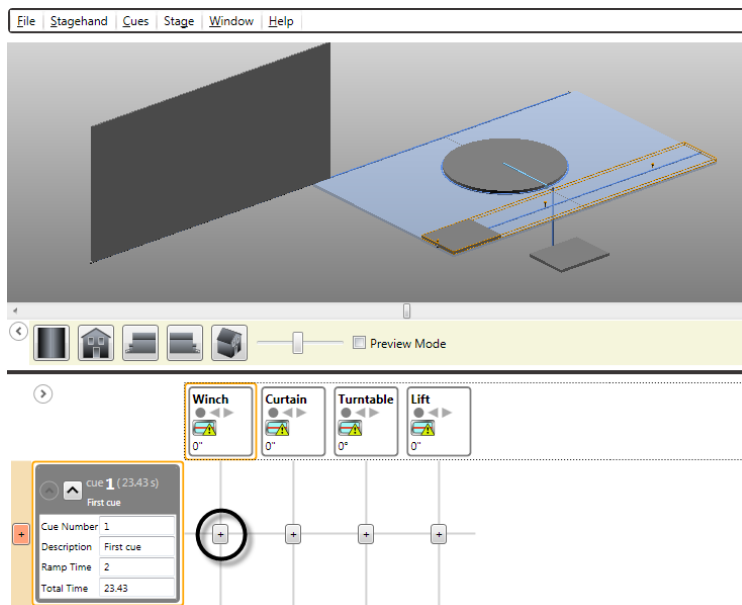

Figure 222
6. If you don't already have a movement for the selected motor in this cue, click the **Add Movement** button in the **Cue Grid** (Figure 222).